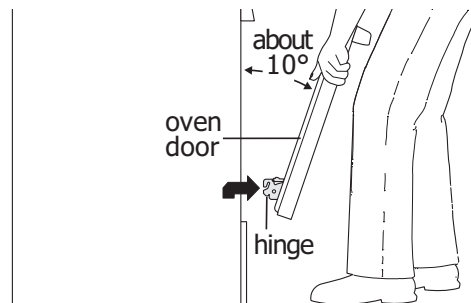
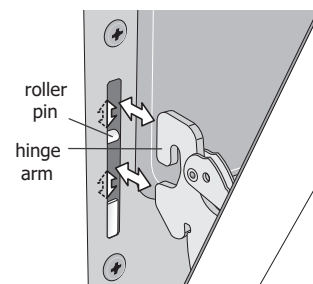

Figure 51: Holding door for removal
Figure 52: Replacement and location of hinge arm and roller pin
3. Firmly grasp both sides of oven door along the door sides. Do not use the oven door handle (See Figure 51).
4. Close the door to approximately 10 degrees from the door frame (See Figure 51).
5. Lift the oven door hinge arms over the roller pins located on each side of the oven frame (See Figure 52).
1. Firmly grasp both sides of oven door along the door sides. Do not use the oven door handle (See Figure 51).
2. Holding the oven door at the same angle as the removal position, seat the hook of the hinge arm over the roller pins located on each side of the oven door frame (See Figure 51 and Figure 52). The hook of the hinge arms must be fully seated onto the roller pins.